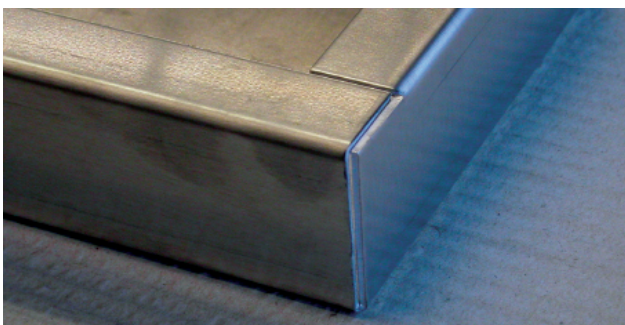

Fig. 8.28
- Of the forms opposite, the topmost is the most favourable (narrow welds and a simple result). By setting the short side first and then the long side, it is possible to use a single blade length to set the product, taking in account the rebound. (Fig. 8.28 and 8.29)